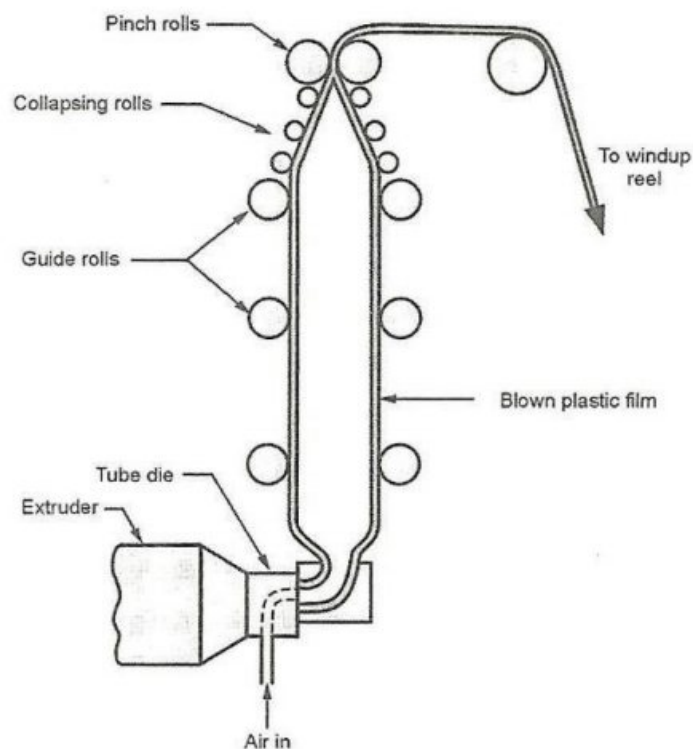

Figure 5.11 Extrusion of Film
- It is a complex process which combines the principle of extrusion and blowing to produce a thin film Refer figure 5.11.